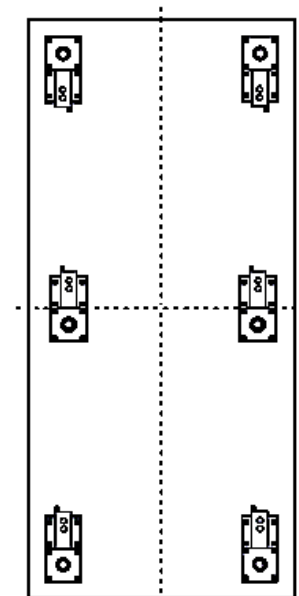

Figure 5
3. When installing six Load Cells (*Figure 5*), **be extremely careful** to position the center Omnicells[®] to exactly the same height as the outer Omnicells[®].